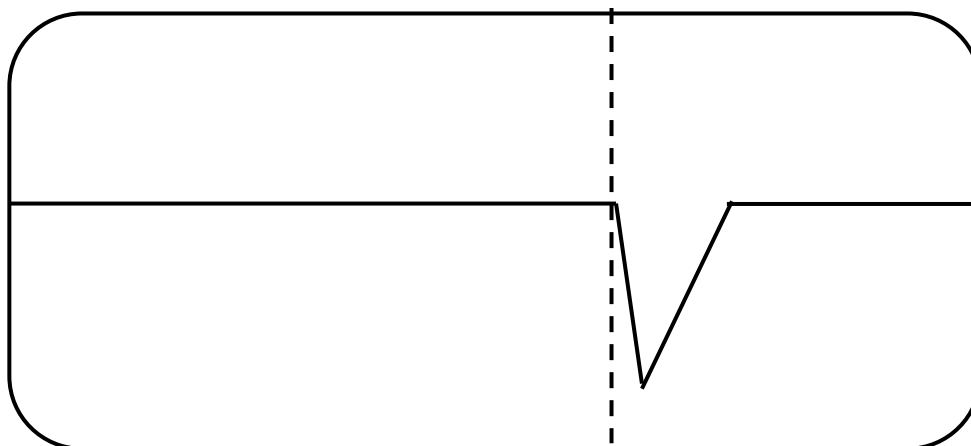

Fig. 1
- (1) Disconnect the faulty pair from service if possible.
- (2) Connect the faulty pair to the line terminals of the tester.
- (3) Press the 'ON' key to power up the tester.
- (4) After the initialisation period set the required propagation velocity factor by means of the arrow keys when in PVF Mode. Listed in Table A. are typical values of propagation velocity factor for various cable dielectrics. Use the menu select key to select metres or feet for the cursor value.
- (5) Inspect the trace for a fault pulse and reduce to the minimum Range where the fault pulse is clearly visible.
- (6) Change to locate mode and operate the cursor keys to position the cursor line at the start of the break point of the fault pulse , for example trace as shown in Fig.1
- (7) The distance to the fault may now be read directly from the cursor value, which is at the bottom center of the LCD display. This reading can be in meters or feet depending on the parameter selected .
- (1) Shorts between two conductors of a cable pair. The reflection has the downward polarity pulse, Fig.1
- (2) Sheath shorts are caused when a conductor in a cable makes contact with the metallic sheath of the cable. To locate a sheath short, first disconnecting the sheath from earth, connect one terminal to the sheath, the other to the conductor.
- (3) Crosses occur when conductors in the different pairs are crossed at a junction box. Crosses produce waveforms similar to shorts, but with reduced amplitude. Crosses can be located with the tester connected to one pair, but a more distinctive fault pulse is obtained if it is connected to the crossed conductors.